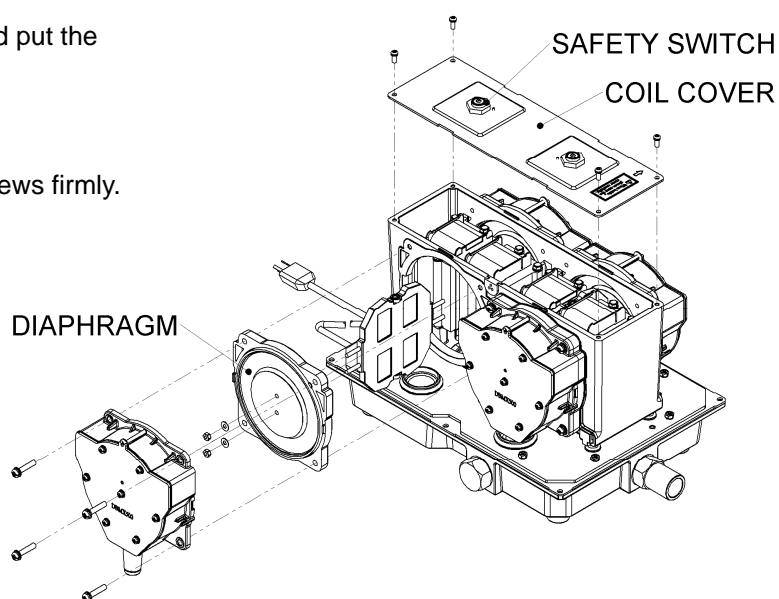

Figure 3
- B. Loosen the four screws around the coil cover, and take the cover off. (As shown in figure 3)